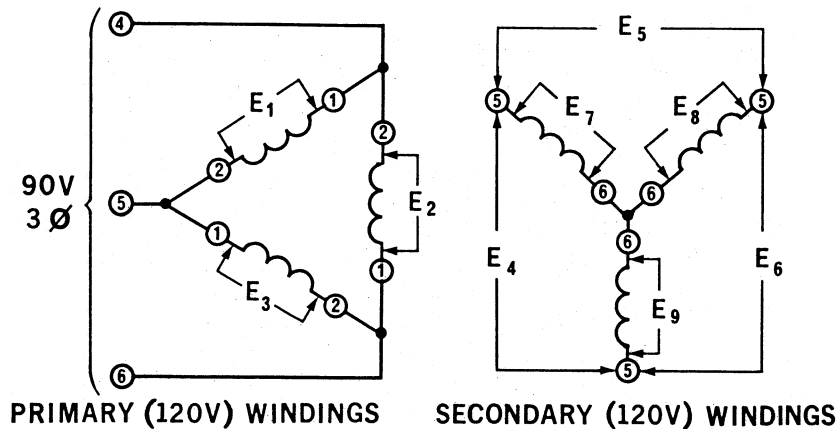

Figure 1-6.
2. a. The circuit shown in Figure 1-6 has three transformers connected in a _____ configuration.